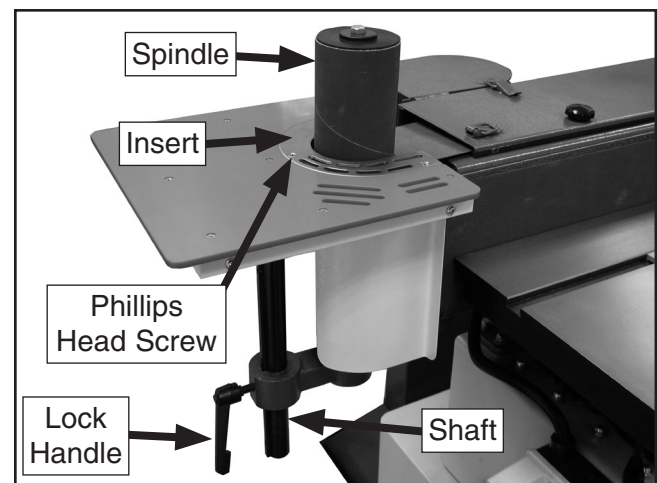

Figure 2. Model T10116 installed.
—If you plan to sand the workpiece on one of the spindle drums, remove the Phillips head screws (see **Figure 2**) and the 4¼" insert. Measure the diameter of the spindle drum installed on the sander. Insert the correct sized insert into the auxiliary table, secure with the Phillips head screws, then proceed to **Step 3**.
3. Slide the Model T10116 auxiliary table shaft into the opening in the idler roller bracket (see **Figure 2**).